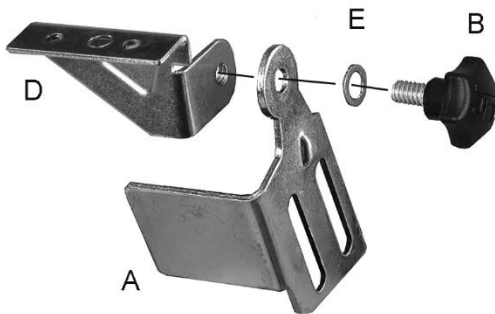

Figure 5-2: brackets to spark guards
Refer to Figure 5-2.
1. Assemble the left spark guard and eye shield bracket using Figure 5-2 as a guide. Make sure spark guard and bracket are both marked **L**.